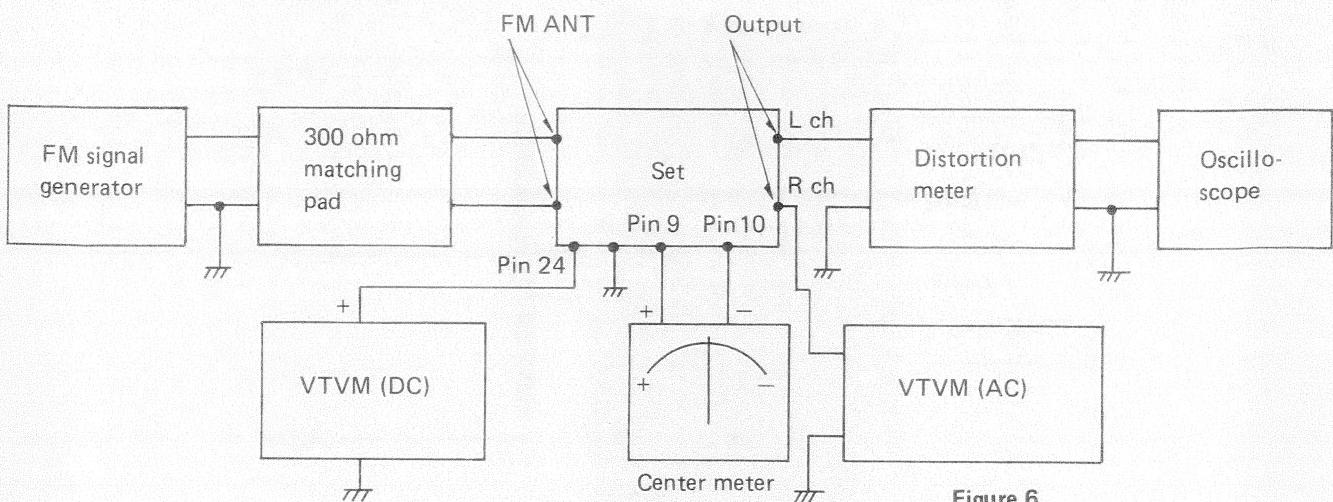

Figure 6
- (1) Connect test equipments as shown in Figure 6.
- (2) Push the FM button.
- (3) Set the MUTING switch to OFF (—).
- (4) Generator modulation .. 1 kHz (75 kHz dev.)
- (5) Proceed as outlined in the TABLE 3. FM ALIGNMENT CHART.